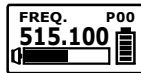

Fig. 7
4. **FREQUENCY: Displays Transmitter Frequency Information, Fig. 7.**
- (A) Press MODE and stop on the FREQUENCY function; the LCD screen will start flashing in the current set state.
- (B) The screen will stop flashing and remain in the set state if not operated within 30 seconds.
- (C) Changing the current frequency must be done on the receiver.
- (D) Programming and saving Frequency need to be synced by pressing "ACT" button on the receiver.